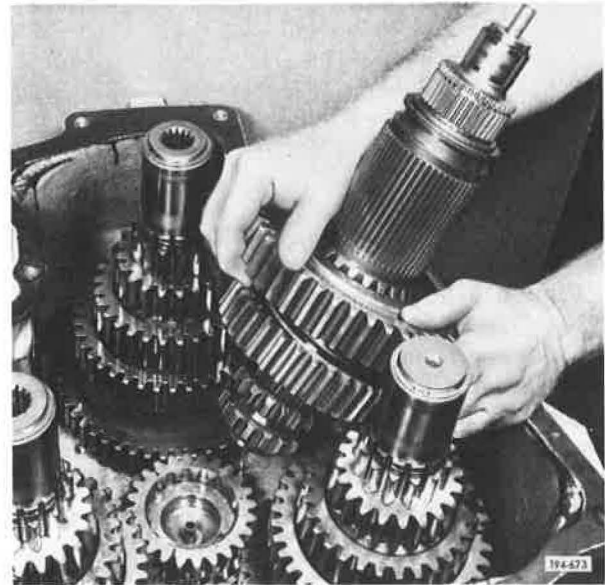

Figure 5-517. Installing Mainshaft
21. Install front mainshaft into front case. Advance mainshaft all the way forward to completely seat spigot bearing into main drive pinion. See Figure 5-517.